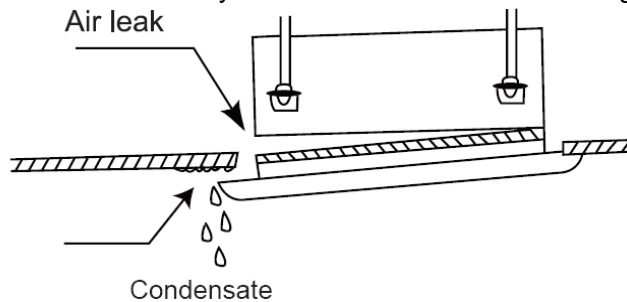

Figure 3-1-32
- (7) Improper screwing of the screws may cause the troubles shown in Figure 3-1-32.